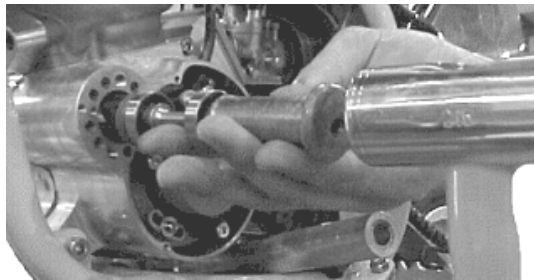

Figure 41
4. Drain engine transmission oil by removing drain screw using a 13mm- hex wrench. (item 2 in the figure below).
9. Stick a 3mm hex key in the water pump shaft cross hole, and remove belt retainer screw using a 4mm hex key. (Figure 41 - item 1)
15. Using a liberal amount of grease on the outside seal, bearings and inside of case, reinstall bearing assembly by using a 0.500" ID by 1.000" OD steel tube 2" long and tap on end of tube per figure 41.